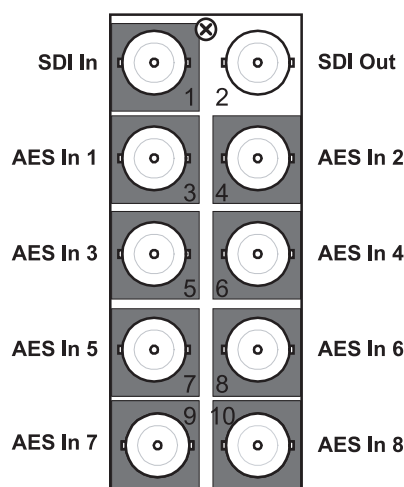

Figure 2.2 Cable Connections for the MUX-8258-A
- **8310AR-030** Rear Module — Each rear module occupies one slot and accommodates one card. This rear module provides one SDI input, one SDI output and eight unbalanced AES inputs. (**Figure 2.2**)
- **8320AR-041** Full Rear Module — Each card occupies two slots and accommodates one card. This rear module provides one SDI input, one SDI output, and eight unbalanced AES inputs. (**Figure 2.2**)